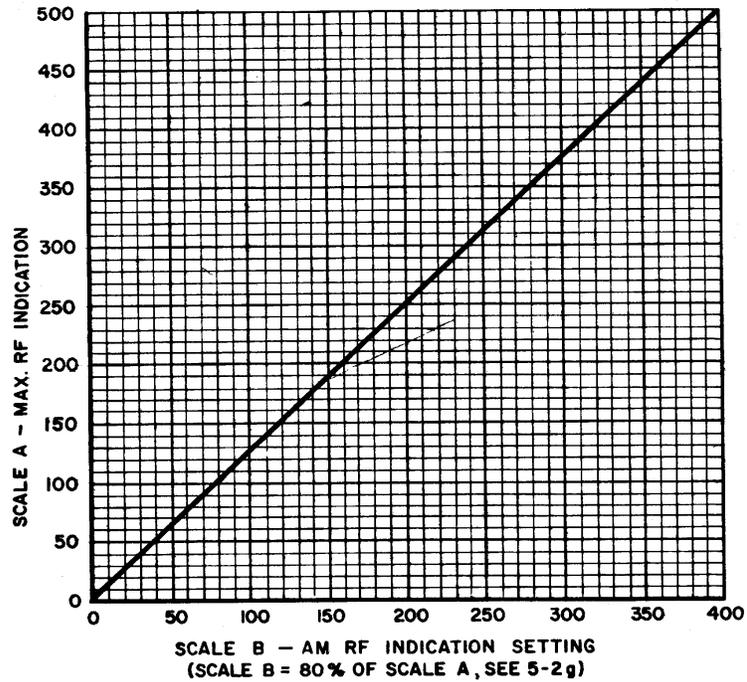

FIG. 2 - AM TUNING INDICATION
- (1) It is assumed that the Driver-Transmitter has been tuned previously into a 50 OHM antenna or dummy load.
- (2) Place the meter switch in the P. A. Plate current position. The meter should read a standby resting current of 50 - 70 ma.
- (3) Depress the microphone button. The BR-21 relays should close and the P. A. Plate current rise upscale to 100 - 300 ma. This reading indicates drive.
- (4) Readjust the Driver-Transmitter (BR-20) Tuning and Loading controls for maximum drive of the BR-21. Repeat until no further increase is noted.
- (5) C4 may now be adjusted for maximum drive indication. Repeat step (4).
- (6) Switch Meter to R. F. Indicator and adjust the BR-21 Plate Tuning and Antenna Loading controls until a maximum R. F. indication is noted. Adjust R14 (R. F. Indicator Set) for 500 or full scale.
- (7) Rotate the Antenna Loading control clockwise until the R. F. indicator reads 80% of the R. F. indication as noted in step (6). The 0-500 scale may be used for a reference. Readjust Plate Tuning control for maximum R. F. indication. Continue adjustment until the 80% reading or 400 on the meter is obtained. SEE Fig. 2.